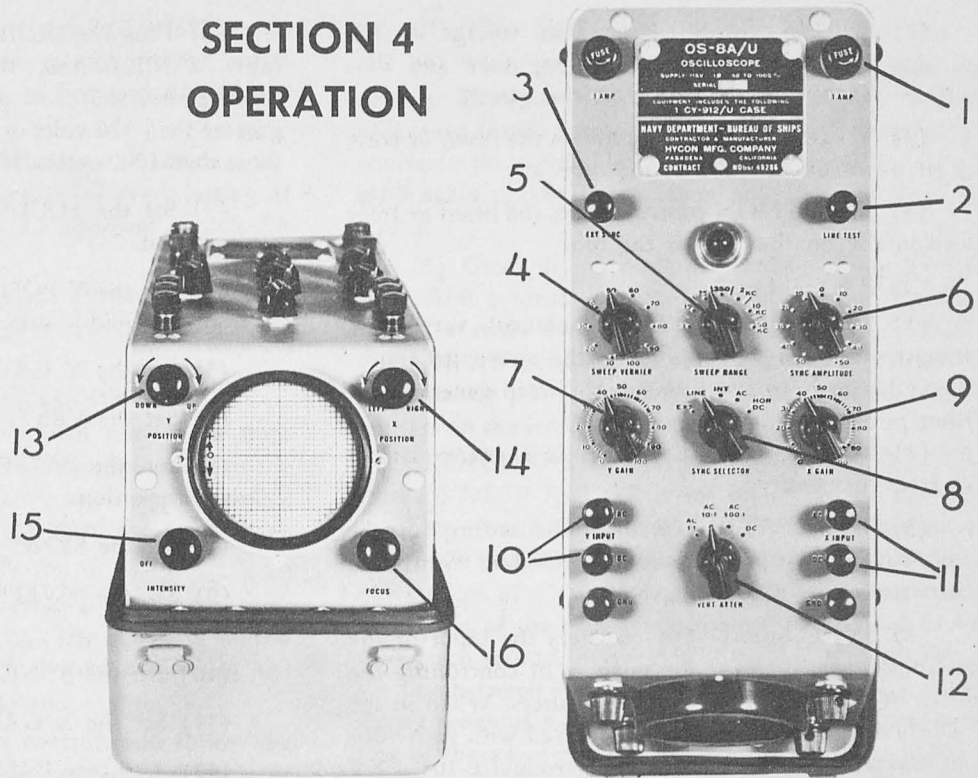

Figure 4-1. Oscilloscope OS-8A/U Controls
The controls for Oscilloscope OS-8A/U are located on the top and slanted front panel of the unit, see figure 4-1 Oscilloscope Controls. These controls fall into two major types: potentiometers and switches. In addition to the controls, there are a number of terminal binding posts to which connections may be made during the course of using the instrument for testing purposes.
4. OPERATION OF CONTROLS. (See figure 4-1.)